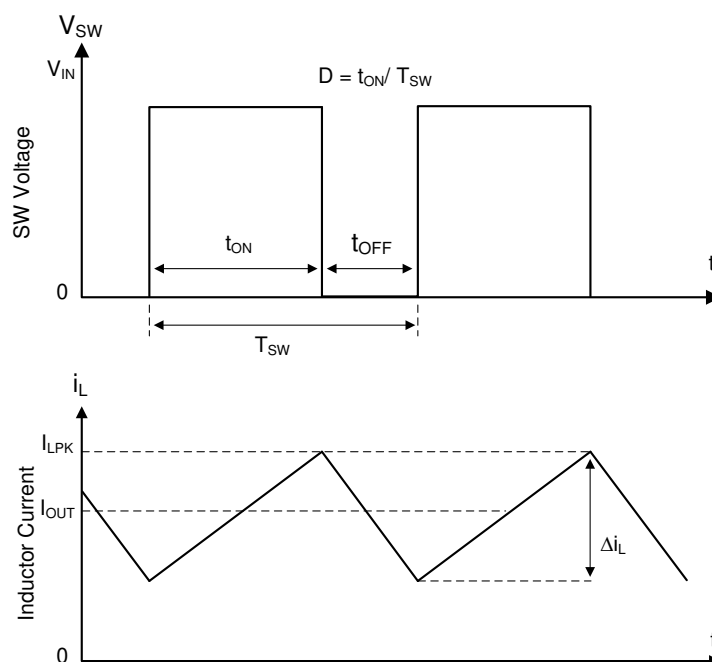

Figure 11. SW Node and Inductor Current Waveforms in Continuous Conduction Mode (CCM)
The following operating description of the LMR50410 refers to the Functional Block Diagram and to the waveforms in Figure 11. The LMR50410 is a step-down synchronous buck converter with integrated high-side (HS) and low-side (LS) switches (synchronous rectifier). The LMR50410 supplies a regulated output voltage by turning on the high-side and low-side NMOS switches with controlled duty cycle. During high-side switch ON time, the SW pin voltage swings up to approximately V_{IN} , and the inductor current, i_L , increases with linear slope $(V_{IN} - V_{OUT}) / L$. When the high-side switch is turned off by the control logic, the low-side switch is turned on after an anti-shoot-through dead time. Inductor current discharges through the low-side switch with a slope of $-V_{OUT} / L$. The control parameter of a buck converter is defined as Duty Cycle $D = t_{ON} / T_{SW}$, where t_{ON} is the high-side switch ON time and T_{SW} is the switching period. The converter control loop maintains a constant output voltage by adjusting the duty cycle D . In an ideal buck converter, where losses are ignored, D is proportional to the output voltage and inversely proportional to the input voltage: $D = V_{OUT} / V_{IN}$.